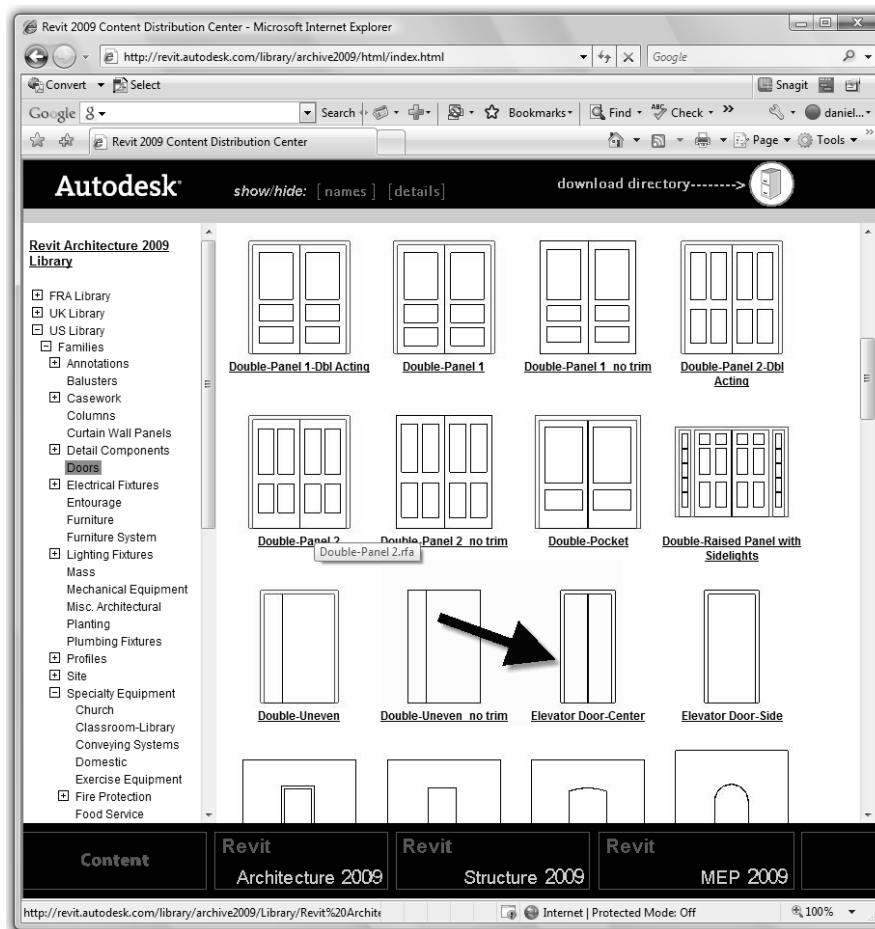

Figure 3-4.7 Elevator door in Revit Web Library
21. Similar to the steps previously covered, load the **Elevator Door – Center** family from the *Web Library* (Figure 3-4.7).